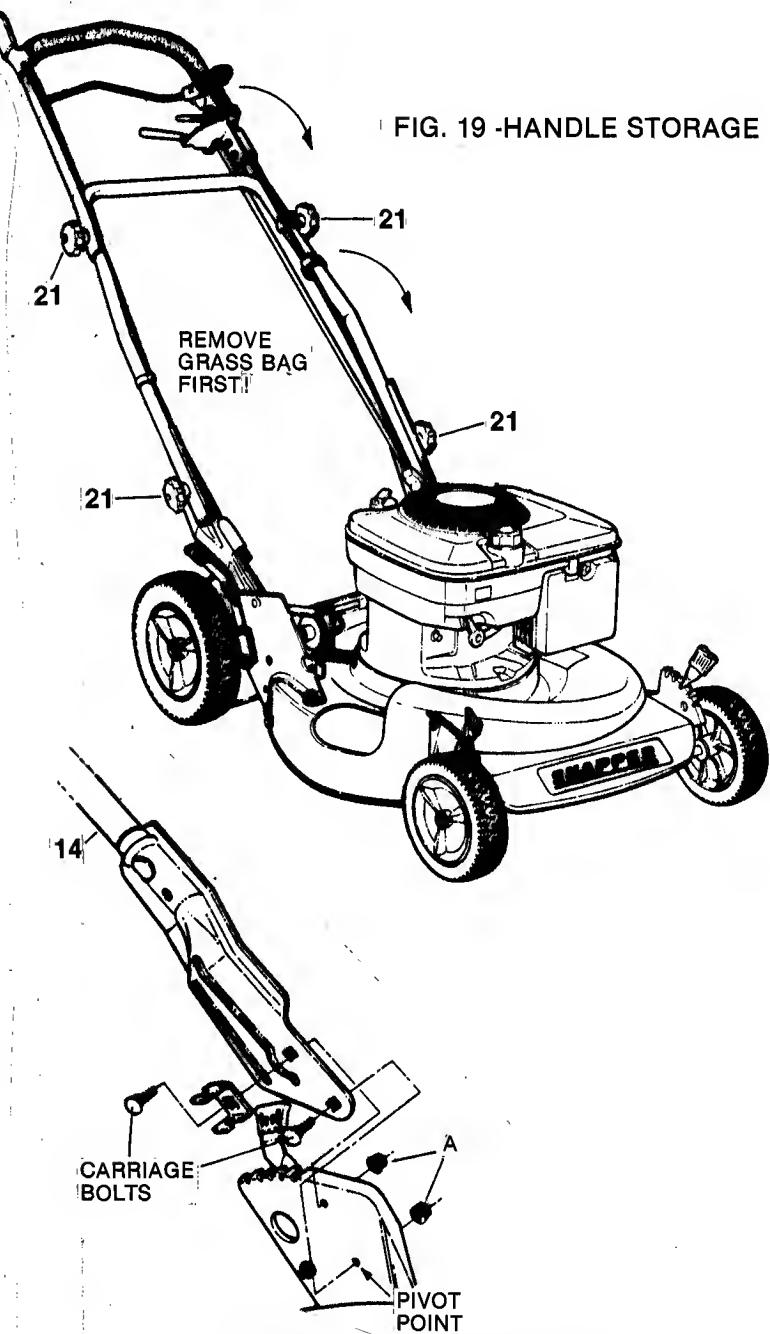

FIG. 20 -HEIGHT ADJUSTMENT
To raise or lower handle (14), loosen the adjusting locknuts (A) on both sides of handle shown in FIG. 20. Re-set handle to desired position and retighten the locknuts.